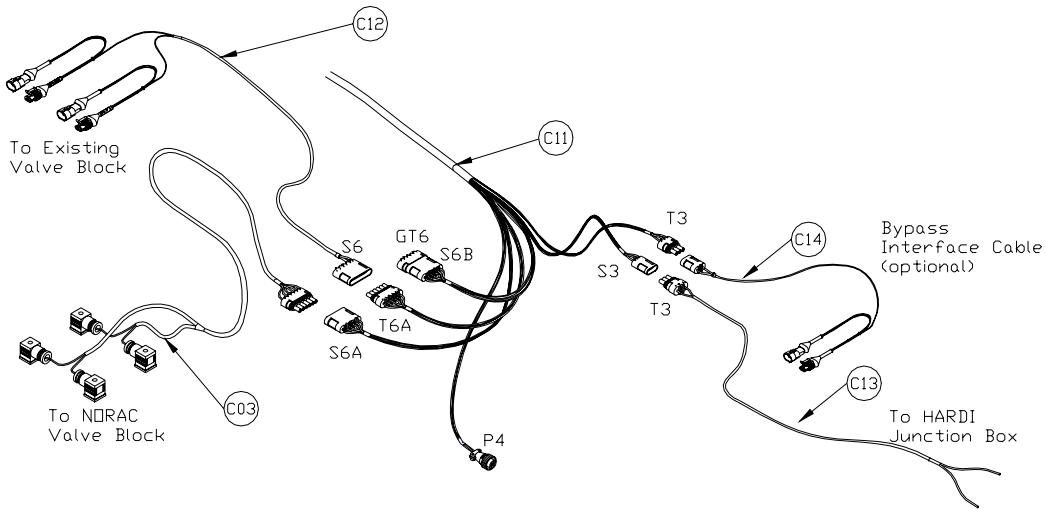

Figure 22 – Cable Configurations: C11, C12, C13 and C03
7. Connect the 6-pin shroud (**S6**) on the interface cable (**C12**) to the mating connector (**T6A**) on **C11** (**Figure 22**).